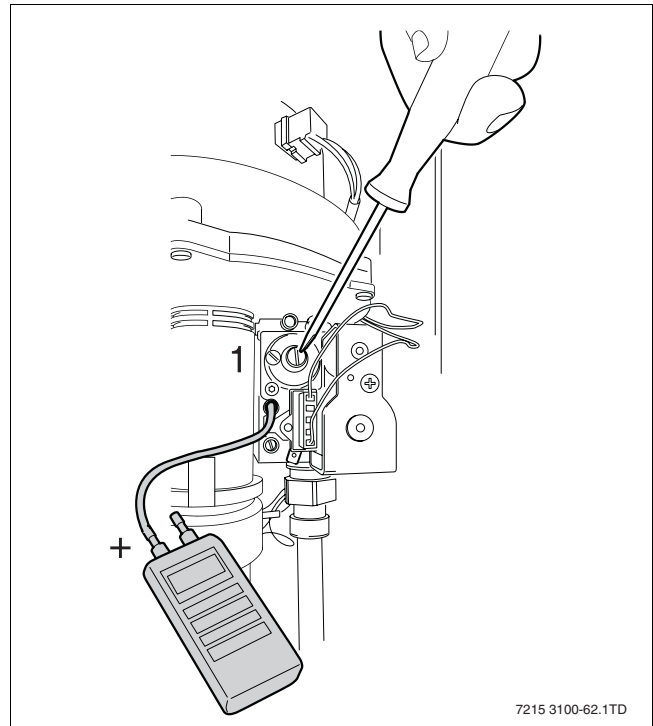

Fig. 62 Adjust gas/air ratio
- Remove the safety screw with a flat head screwdriver (→ fig. 62, item 1).
- Replace the safety screw (→ fig. 62, item 1).